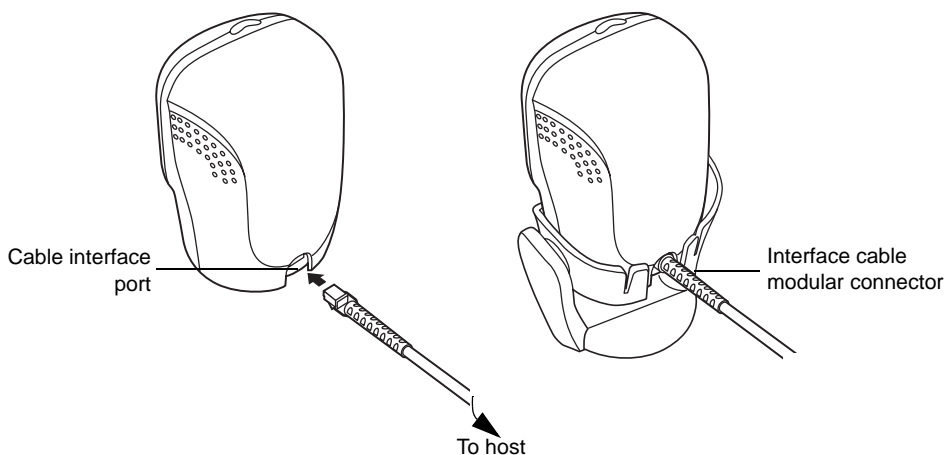

Figure 1-2. Installing the Interface Cable
2. Plug the interface cable modular connector into the interface cable port on the rear of the Symbol LS9208 (See Figure 1-2.)